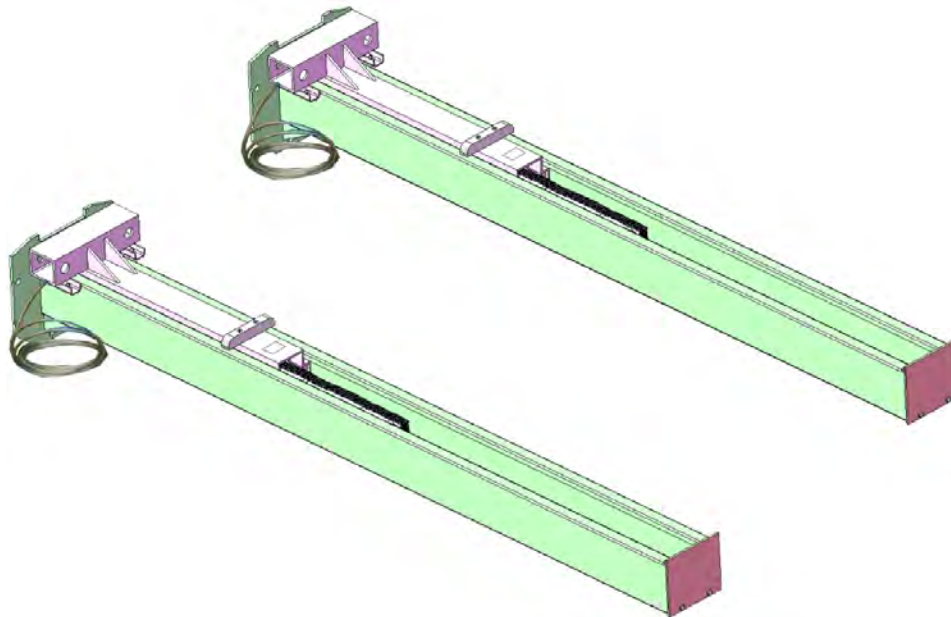

Fig. 14
2. Push the carriages to the bottom of the columns. (See Fig. 14)